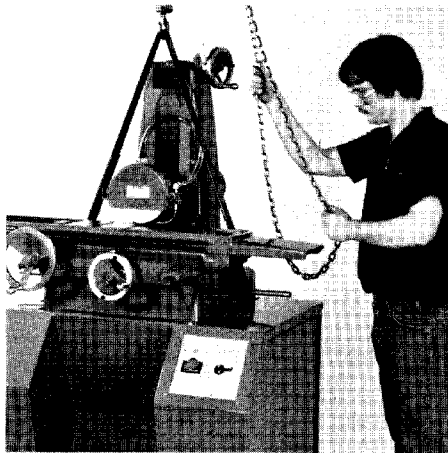

Figure 4
2.2 Attach chain or rope to ends of bar and join near top of column. Strap to top of column. Pad machine adequately to prevent damage to finish. (Fig. 4)